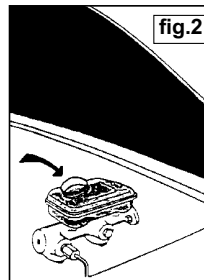

fig.2
- 3.03 Remove the lid of the vehicle's brake fluid reservoir. ( See fig.2 )